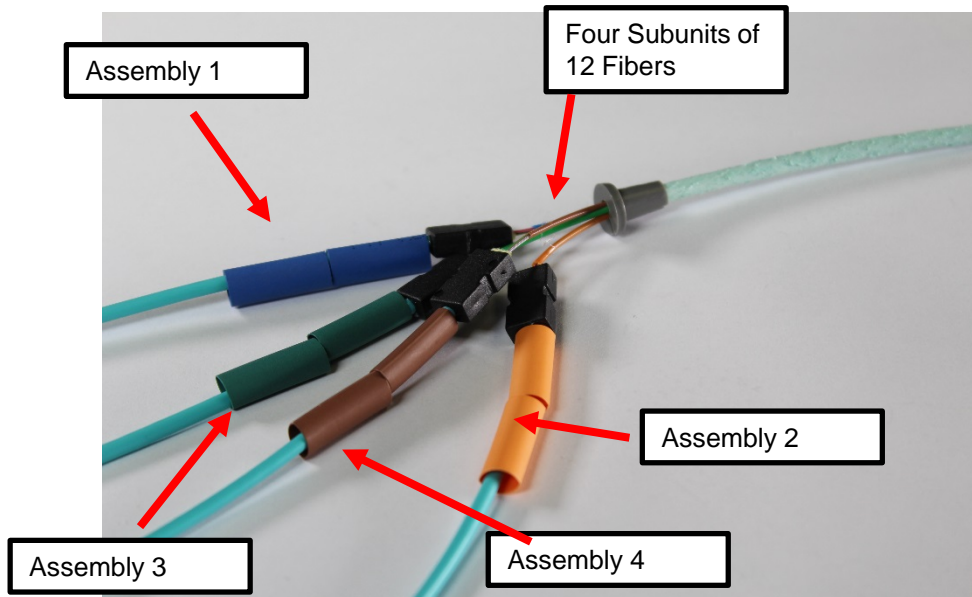

Figure 6
5.1 FT48FBK Field Termination Kit consists of a Base Unit, Base Unit Cover, Four (4) Breakout Unit Assemblies, and a 3.8 mm bushing **See Figure. 6.**
7.2 Carefully push all the fibers as a group of 12 into Breakout Unit Assemblies until ends of the PEF jacket and inner nylon jackets are within ½” of each other inside of the 3.6mm bushing **See Figure 6.**
8.3 Each ribbon will be thread through the designated color breakout kit subunits that hold 12 fibers. Refer to **Figure 6.**